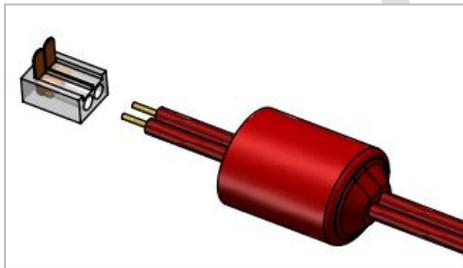

figure 2.1
2. Pass the two wires into the silicone rubber cap, as figure 2.1